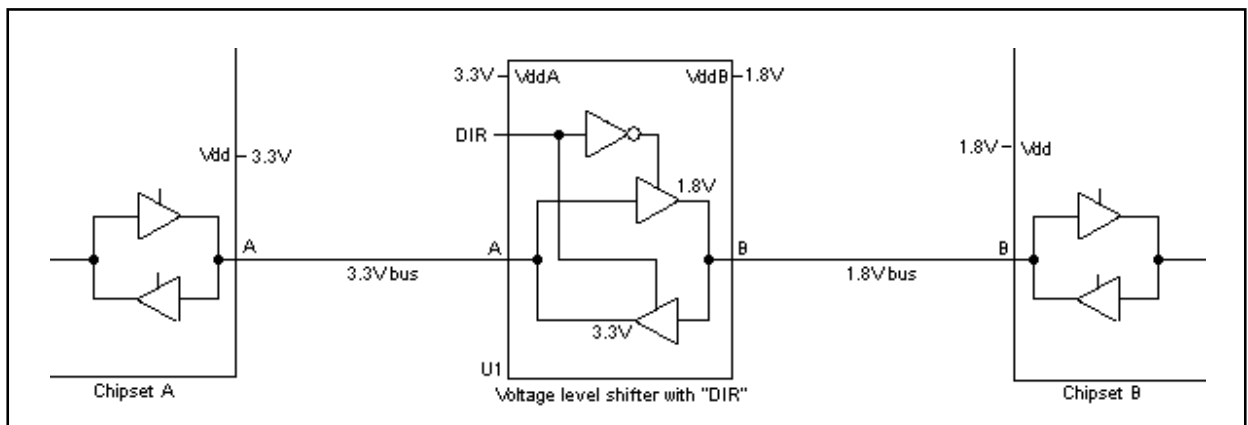

Figure 1: Tradition Voltage Level Shifter Needs a DIR Control Signal
- In order to link between the 3.3V chipset A and the 1.8V chipset B in Figure 1, a voltage level shifter is needed (depicted as U1 in the figure).
- A tradition voltage level shifter (such as the one in Figure 1) requests a “DIR” signal to indicate U1 the bus direction as A-to-B or B-to-A.